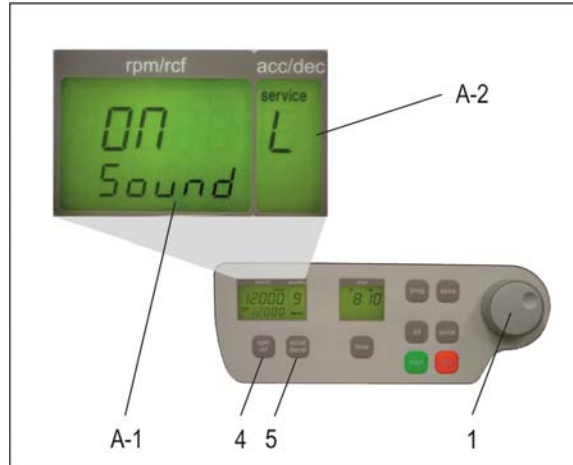

Figure 5
Proceed as described under point 1.8.2 to enter this program mode and then press the key „accel/decel“ (5). In the display „accel/decel“ (A-2) flashes the word „service“. Now select the letter „L“ with the adjusting knob (1). As a result appear in the display „rpm/rcf“ (4) the words „On Sound“. If you press the key „rpm/rcf“ (4) now, the word „On“ flashes and you can switch off the sound with the adjusting knob (1) (see figure 5).